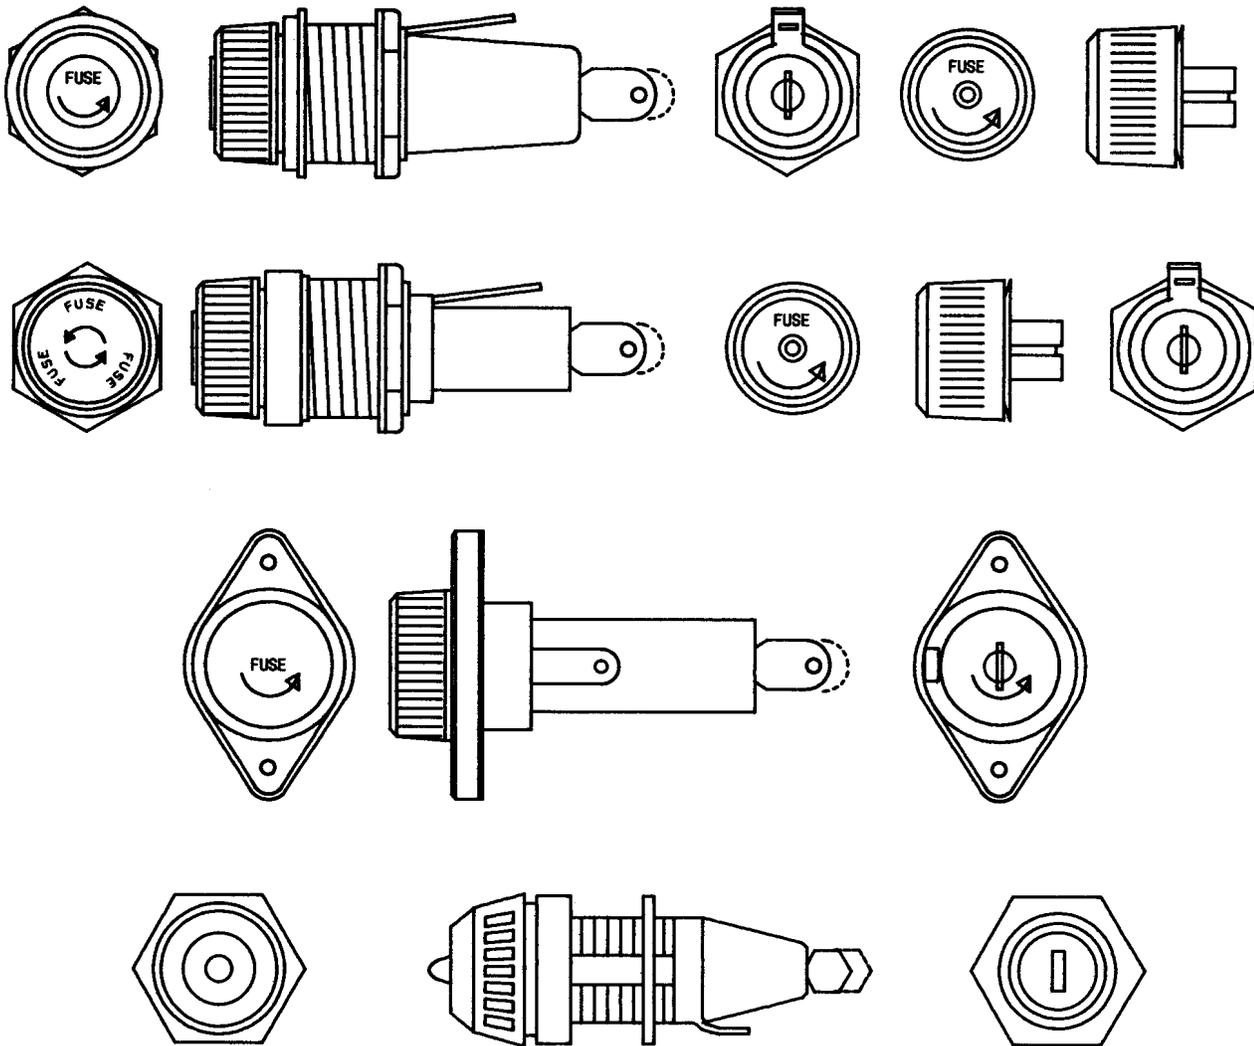

Fig. 22—KS-5842 Fuse Holder
3.17 To replace all fuse holders (except KS-14170, KS-14473, and KS-16364), fuse mountings, fuse panels, and fuse posts (Fig. 22 through 26), proceed as follows: